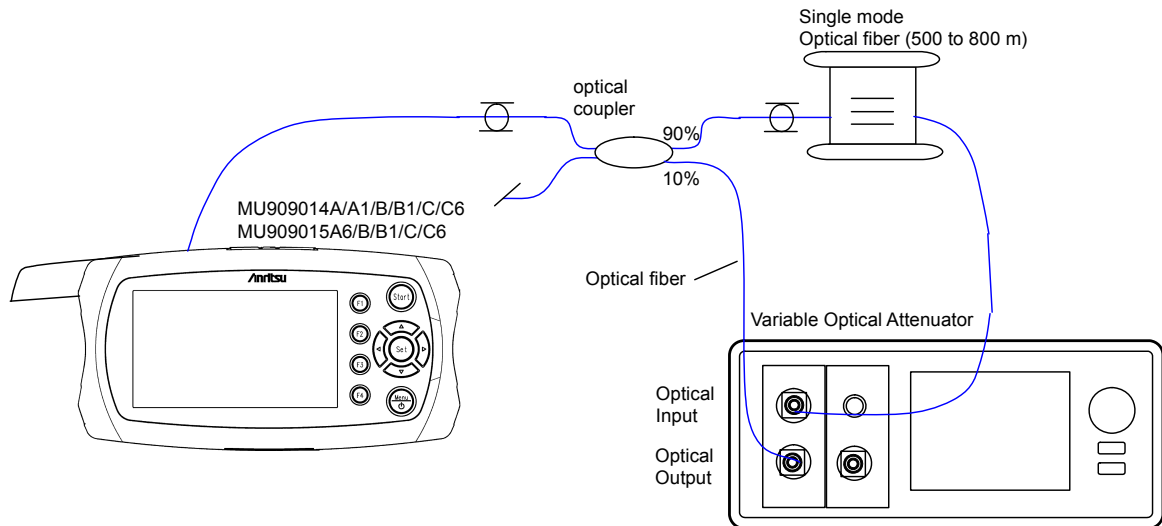

Figure 11.1.7-1 Dead Zone Measurement Setup
1. Connect the devices as shown in Figure 11.1.7-1.